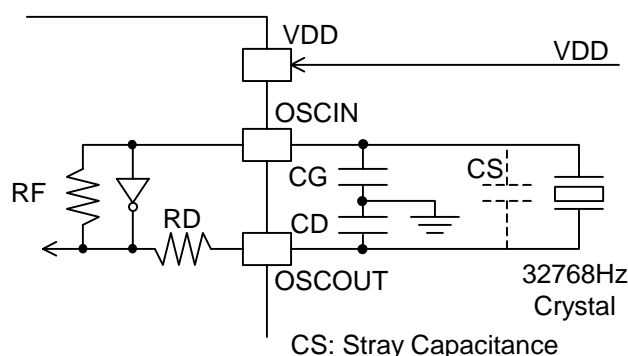

Fig.1: Typical Oscillation Circuit
Fig. 1 shows the typical oscillator circuit of CMOS clock IC. The load capacitance (CL) of the crystal is a critical parameter. The CL is not the capacitance of the crystal itself.